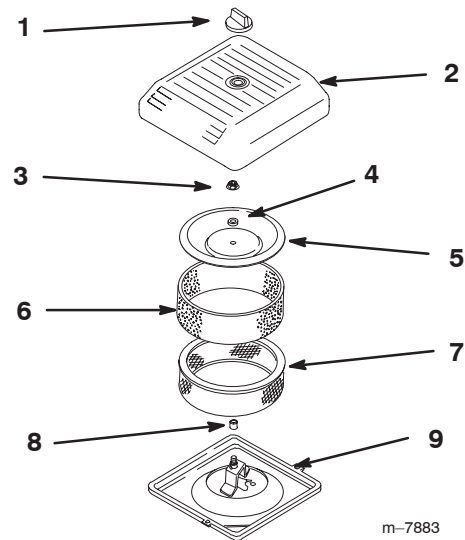

Figure 29
- Unscrew the knob and remove the air cleaner cover (Fig. 29).
- Carefully slide the foam pre-filter off of the paper element (Fig. 29).
- Unscrew the cover nut and remove the cover, spacer and paper filter (Fig. 29).